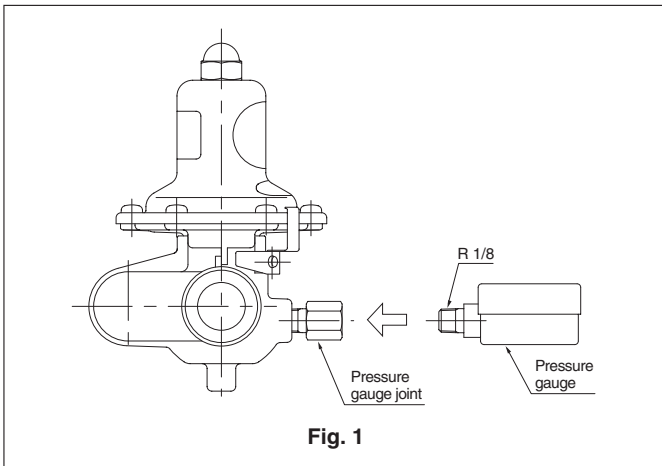

Fig. 1
1. Screw the pressure gauge into the pressure gauge joint (Fig. 1).